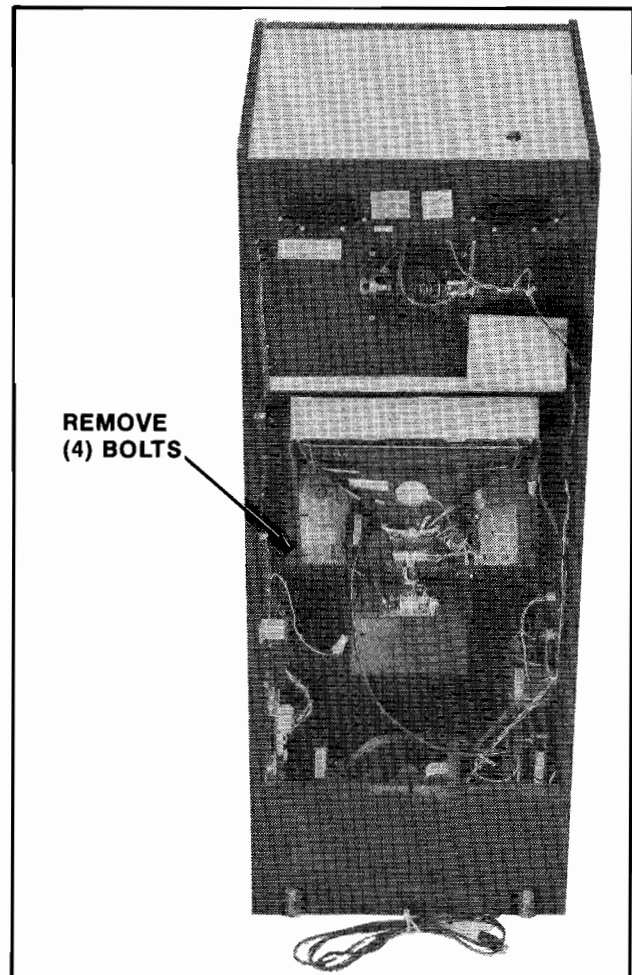

Figure 4-7 Removing Monitor — Upright
1. UPRIGHT MODEL: See Figure 4-7.